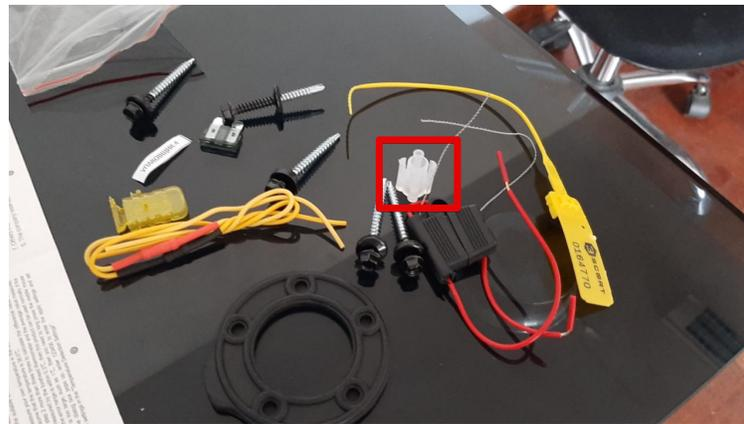

Fig. 16 Centrator/centralizer
- Insert the centrator from the sensor's kit into the tubes (**Fig. 16**)